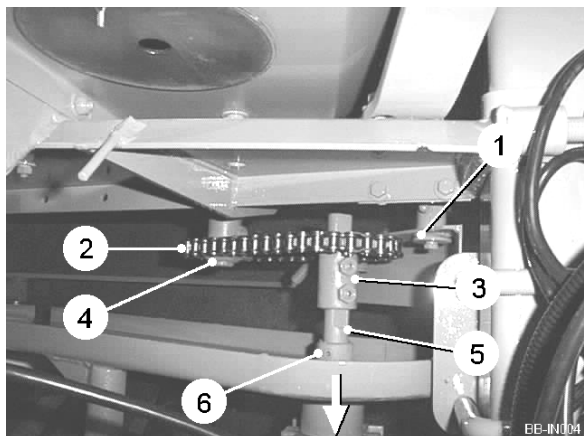
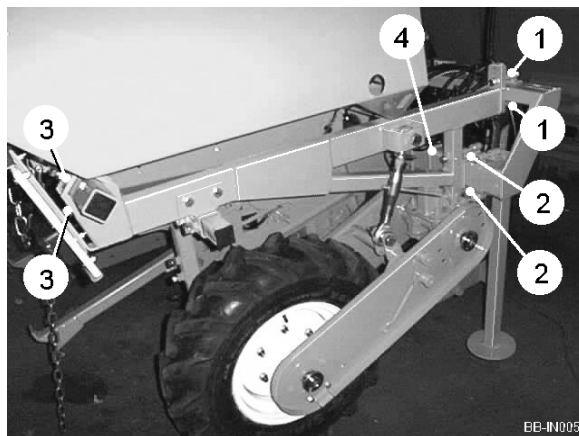

Fig 2
Fig 3
Loosen the chain tensioner (item 1, figure 2) and remove the drive chain (item 2, figure 2) (machines with manual space selector only). Loosen the LH and RH wheel unit frame securing bolts (item 1, 2 & 3, figure 3) and soil retention panel front mounting 'U' bolts (item 4, figure 3). Slide the wheel units and soil retention panel mountings to the required setting ensuring they are adjusted equally about the machine centre-line. When in position, retighten the securing bolts (item 1, 2 & 3, figure 3) and 'U' bolts (item 4, figure 3). Loosen the drive sprocket (item 3, figure 2) and reposition it to align with the driven sprocket (item 4, figure 2). Ensure the retaining bolts locate firmly on the drive shaft flat. Finally, refit the drive chain (item 2, figure 2) and set it to the correct tension by adjusting the chain tensioner (item 1, figure 2).
Depending on the row width setting and wheel setting, a different drive shaft (item 5, figure 2) may be required. When built, the planter will have been set-up for the customers original requirements and therefore supplied with the correct drive shaft.
Loosen the chain tension roller (item 1, figure 2) and remove the drive chain (item 2, figure 2). Loosen the drive sprocket (item 3, figure 2) and adjacent locking collar (item 6, figure 2) and withdraw the drive shaft in the direction of the arrow.